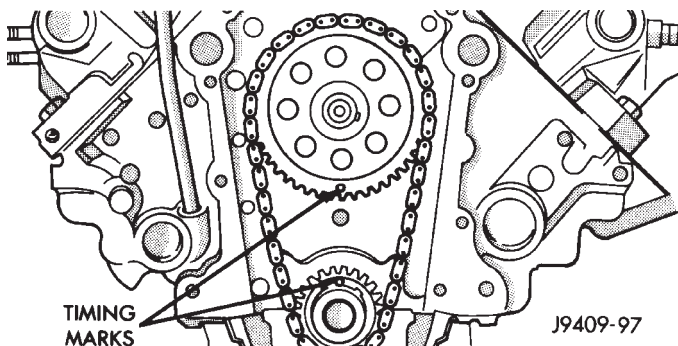

Fig. 6 Alignment of Timing Marks
(7) Place timing chain around both sprockets.
(8) Turn crankshaft and camshaft to line up with keyway location in crankshaft sprocket and in camshaft sprocket.
(9) Lift sprockets and chain (keep sprockets tight against the chain in position as described).
(10) Slide both sprockets evenly over their respective shafts and use a straightedge to check alignment of timing marks (Fig. 6).